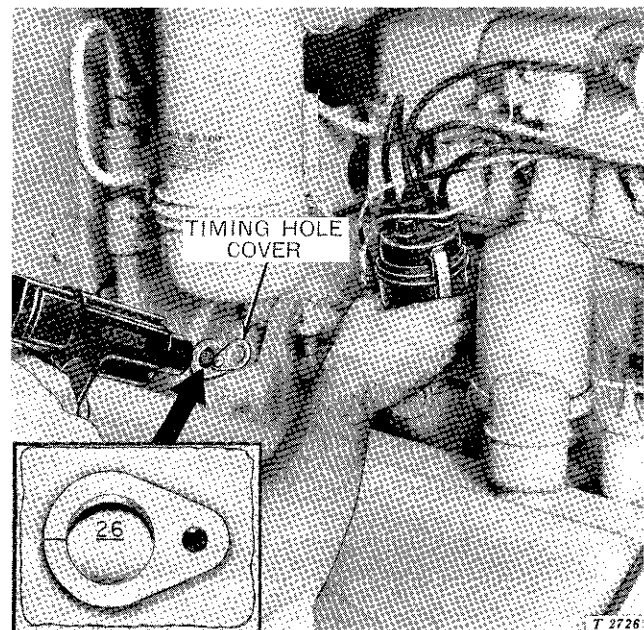

Fig. 40-10-6—Timing Distributor with Timing Light
2. Uncover timing hole (Fig. 40-10-6).
6. Direct timing light toward timing hole in center frame (Fig. 40-10-6) and rotate distributor body until "26" mark on flywheel lines up with mark on timing hole.